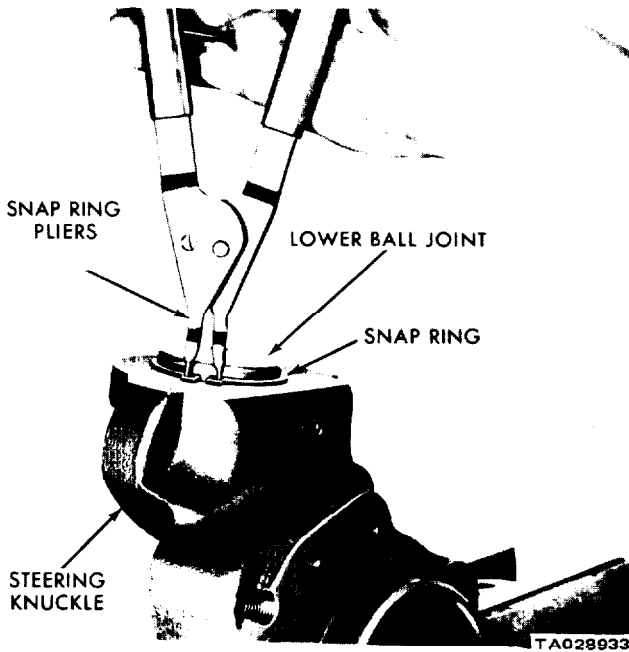

Figure 6.3. Removing or Installing Snap Ring on Lower Ball Joint.
(9) Remove the nuts from the steering knuckle arm. Tap the steering knuckle arm to loosen the tapered dowels. Remove the tapered dowels and the steering knuckle arm.
(10) Remove the cotter key from the upper ball joint nut. Remove the upper and lower ball joint nuts.
(11) Using a brass drift and hammer, separate the steering knuckle from the axle housing yoke.
(12) Using tool C-4169, remove and discard the sleeve from the upper ball joint yoke on the axle housing.
(13) Position the steering knuckle in a vise and remove the snapping from the lower ball joint (figure 6-3)